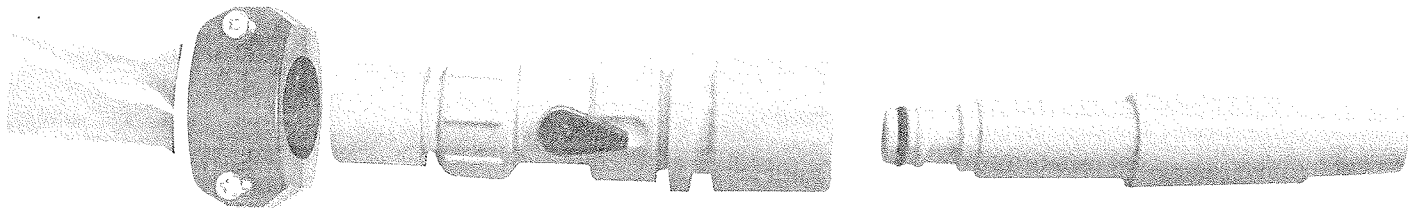

FIGURE 5
2. Refer to Figure 5. Push the small end of the Inlet Push-in Connector (14) into the Hose Connector Valve Assembly (7). This is your inlet adapter.